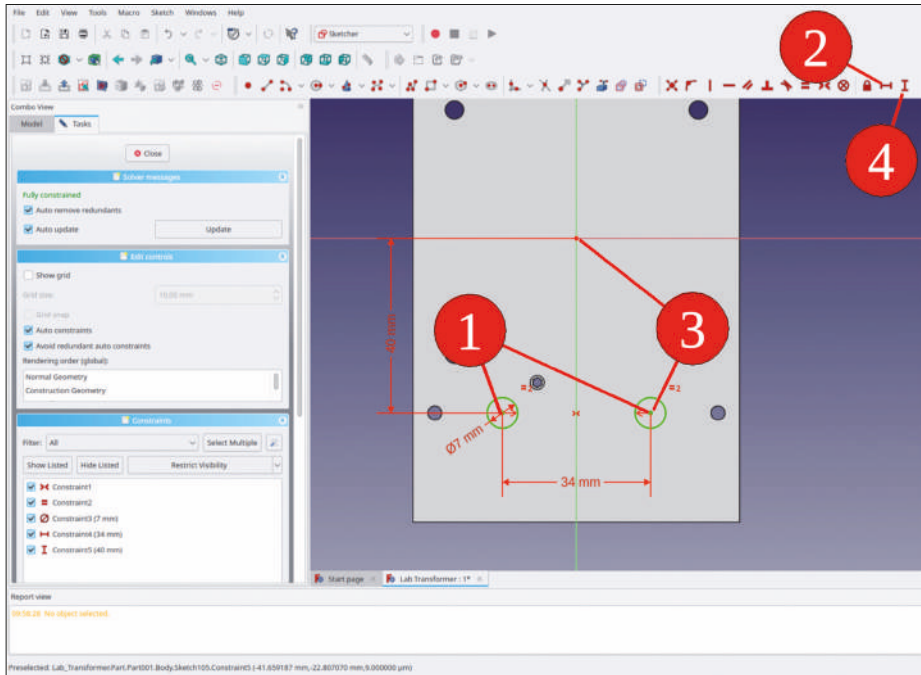

Figure 9-99
20. Mark the two circle centers and constrain the horizontal distance to 34 mm. Then, mark one of the circle centers and the origin, and constrain the vertical distance to 40 mm (Figure 9-99). Close the sketch.